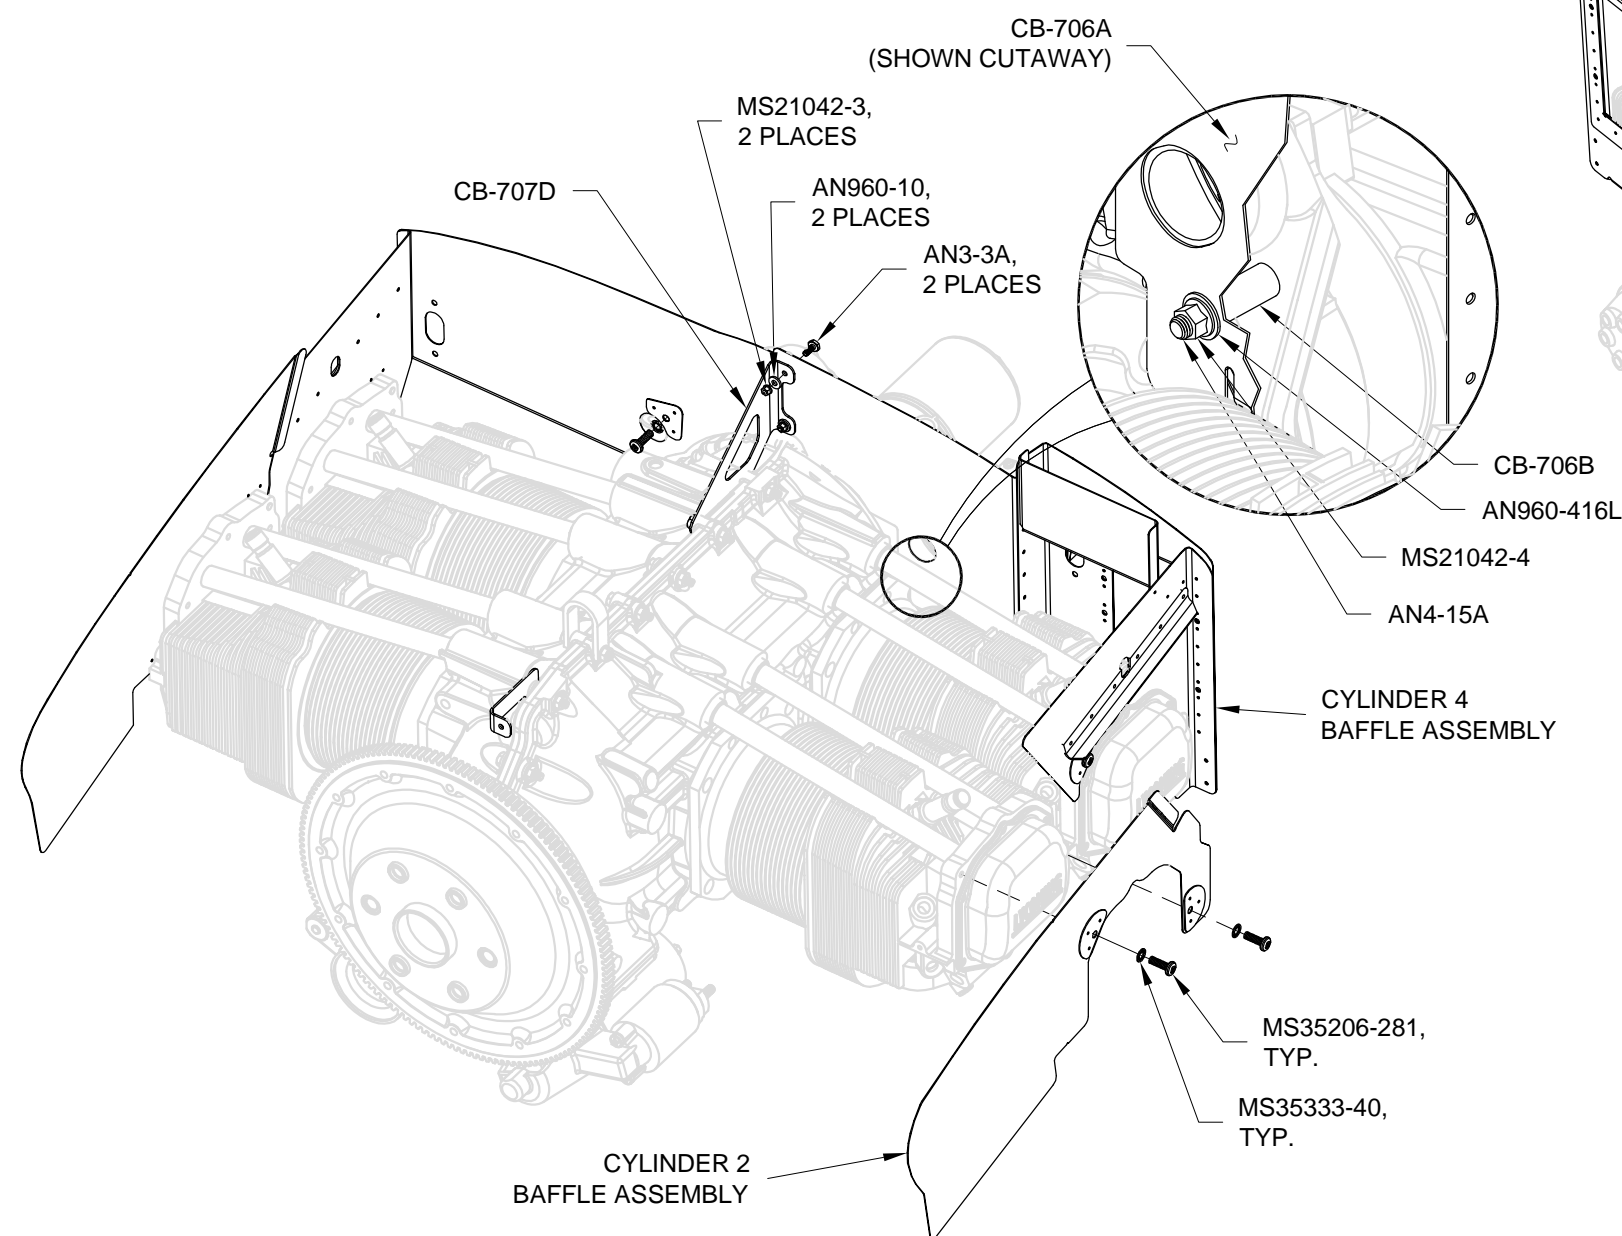

FIGURE 1: ATTACHING THE LEFT SIDE BAFFLES
Step 5: Use the hardware shown in Figure 1 and Figure 2 to attach the Cylinder 1 and 2 Baffle Assemblies to the engine.